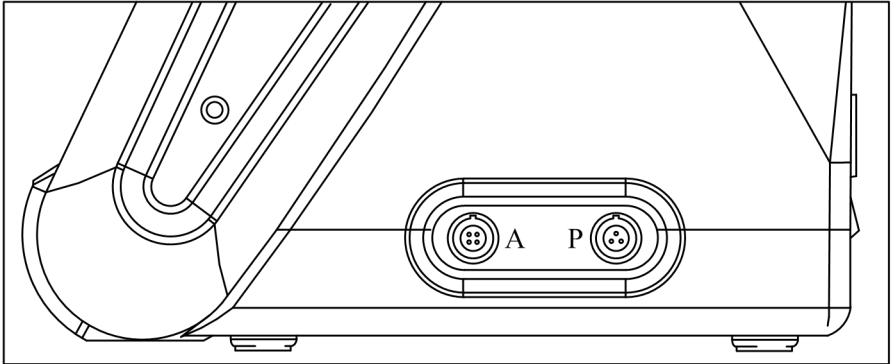

Figure 2-2 Probe Connection Panel
3. Connect the probe connector (A-Scan probe or Pachymetry probe) to the jacks on the right side of the system labeled “A” (for A-Scan) or “P”(for Pachymetry). Before inserting be sure to line up the red indicator marks on both jacks and cables connector. (Figure 2-2)